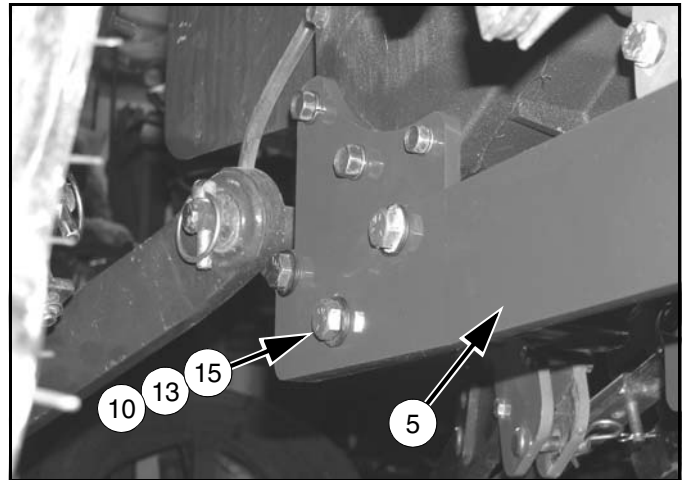

Figure 4. Right Rear Rail to Axle Plate Connection
1. Attach right rear rail (5) to the outside of axle plate on right side of axle housing using three cap screws (10), hardened flat washers (13), and hex nuts (15). See Figure 4.